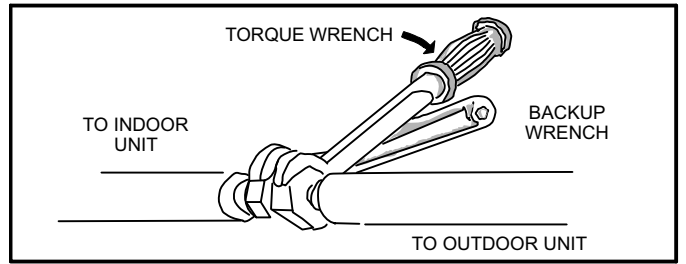

Figure 9. Tighten Flare Nut
- 8 - Once snug, continue another half-turn on each nut which should create a leak-free joint. A torque wrench may be used to tighten flare nuts using table 2 recommendations. (see figure 9). **Do not over-tighten a flared joint. Flared connections should always be accessible and must be insulated to prevent condensation.**